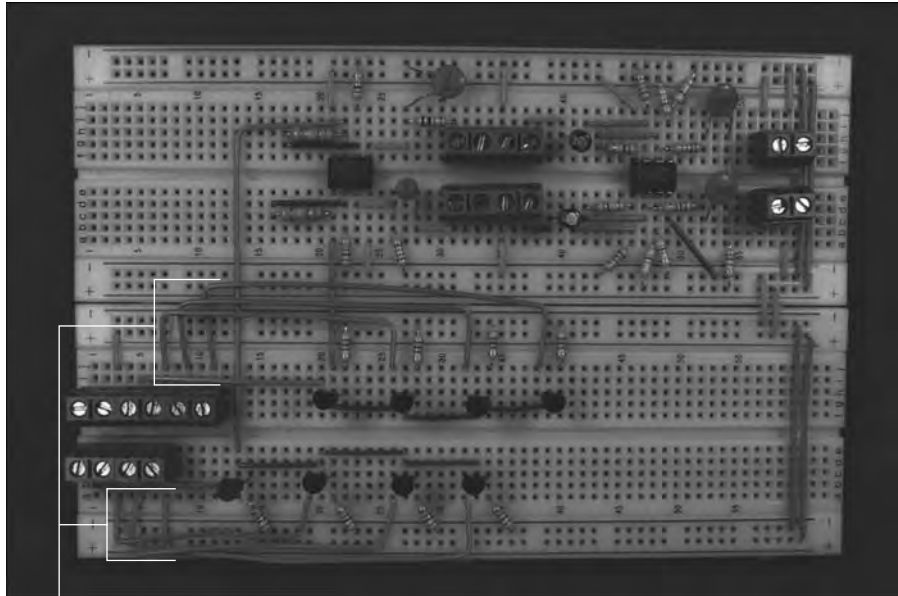

Figure 5-14:
11. Insert wires to connect the collector pins of the transistors to the terminal blocks, as shown in Figure 5-14.